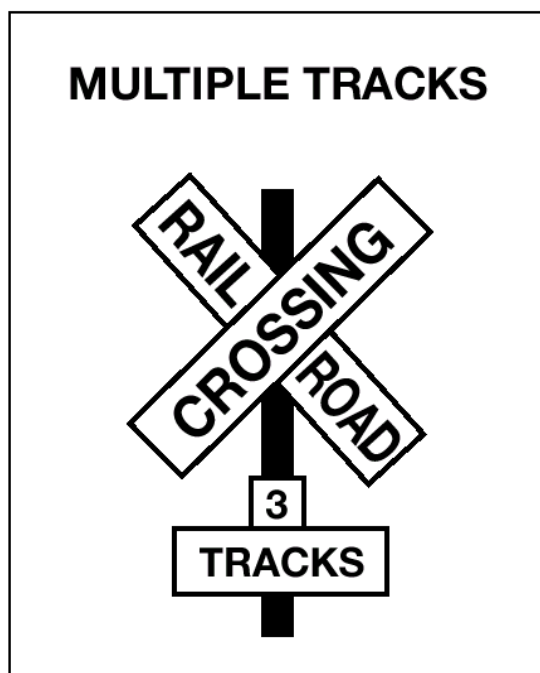

Figure SB. 7
**Crossbuck Signs.** This sign marks the crossing. It requires you to yield the right-of-way to the train. If there is no white line painted on the pavement, you must stop the bus before the crossbuck sign. When the road crosses over more than one set of tracks, a sign below the crossbuck indicates the number of tracks. See **Figure SB.7.**